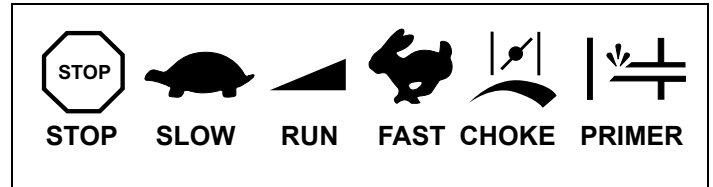

Figure 18. Typical Engine Symbols
*If engine is remotely controlled, (see equipment manufacturer's instructions) your equipment may have one or more of the following engine symbols. See Figure 18.*